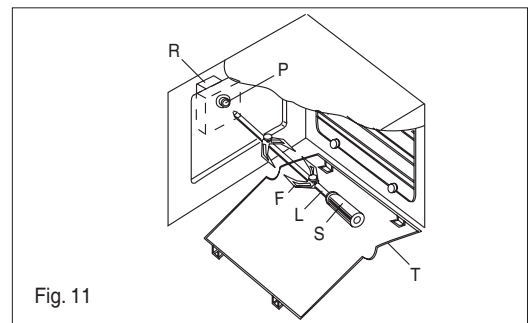

Fig. 11
50 ÷ 200	<p>Total grill heating element  or (turnpit motor according to the models, see Fig.11).</p> <p>It is indicated for cooking on the spit, grilling and gratinating.</p>
<p>50 ÷ 200</p>	<p>Total grill heating element  or (turnspit motor according to the models, see Fig.11). It is indicated for cooking on the spit, grilling and gratinating.</p>
- Fit the end of the spit into the motor M at the back of the oven (fig.11).